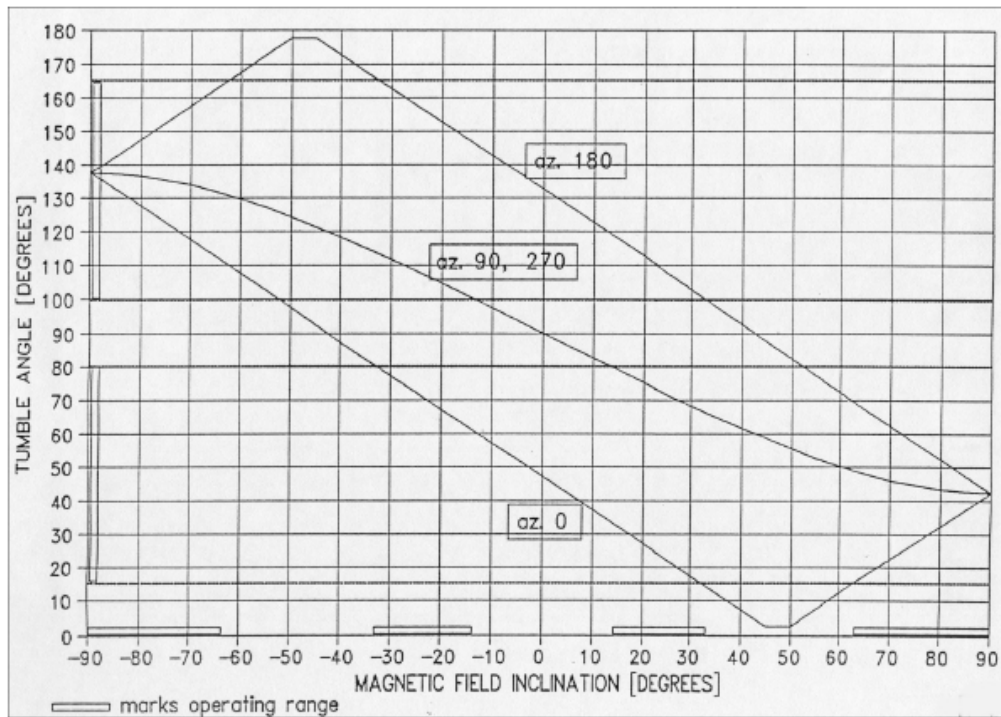
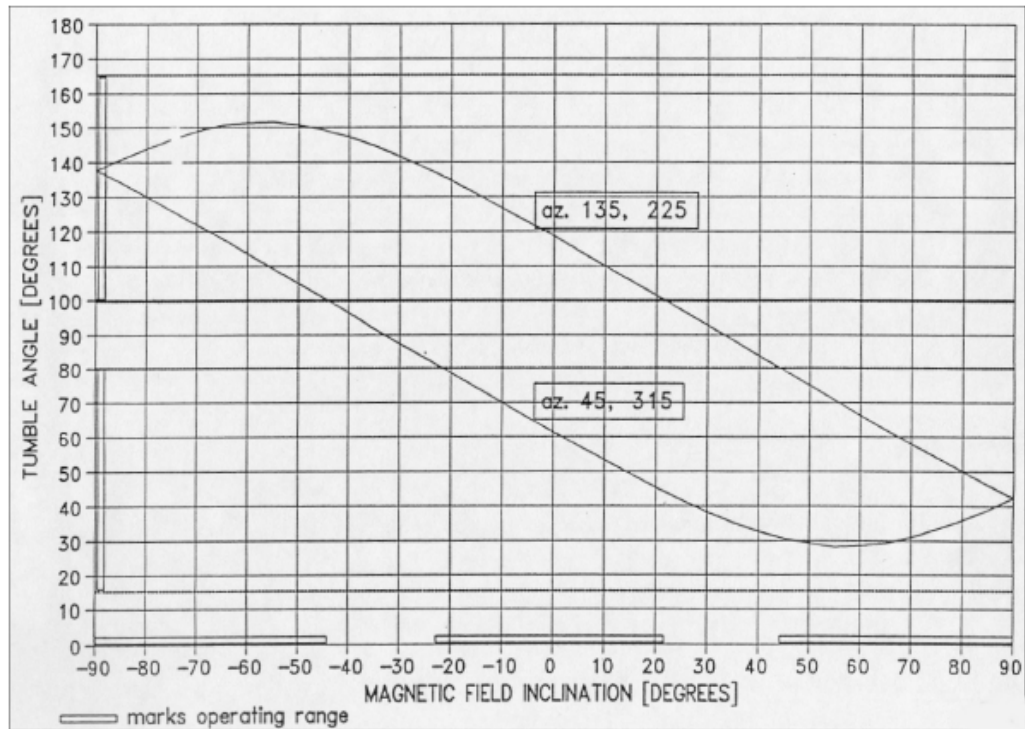

Figure 10 - Plot of tumble angle versus magnetic field inclination. Sensor inclination is 47.5°. Sensor azimuths are 0, 90, 180 and 270 degrees.
Figure 11 - Plot of tumble angle versus magnetic field inclination. Sensor inclination is 47.5°. Sensor azimuths are 45, 135, 225 and 315 degrees.
Tumble angles for the sensor azimuths parallel or perpendicular to the magnetic field direction could be determined from the graph in Figure 10. This orientation could be used in surveying polar regions. If the azimuth of 90° and 270° are used for flying normal survey lines, the tumble angle is same for both up-the-line and down-the-line flying, and it is well inside the active zone. The sensor orientation shown in Figure 11 offers the advantage of use for surveys in ether polar or equatorial regions.
1. The orientation in Figure 11, with the sensor inclination 45° and azimuths 45, 135, 225, 315 degrees, for polar and equatorial regions, and